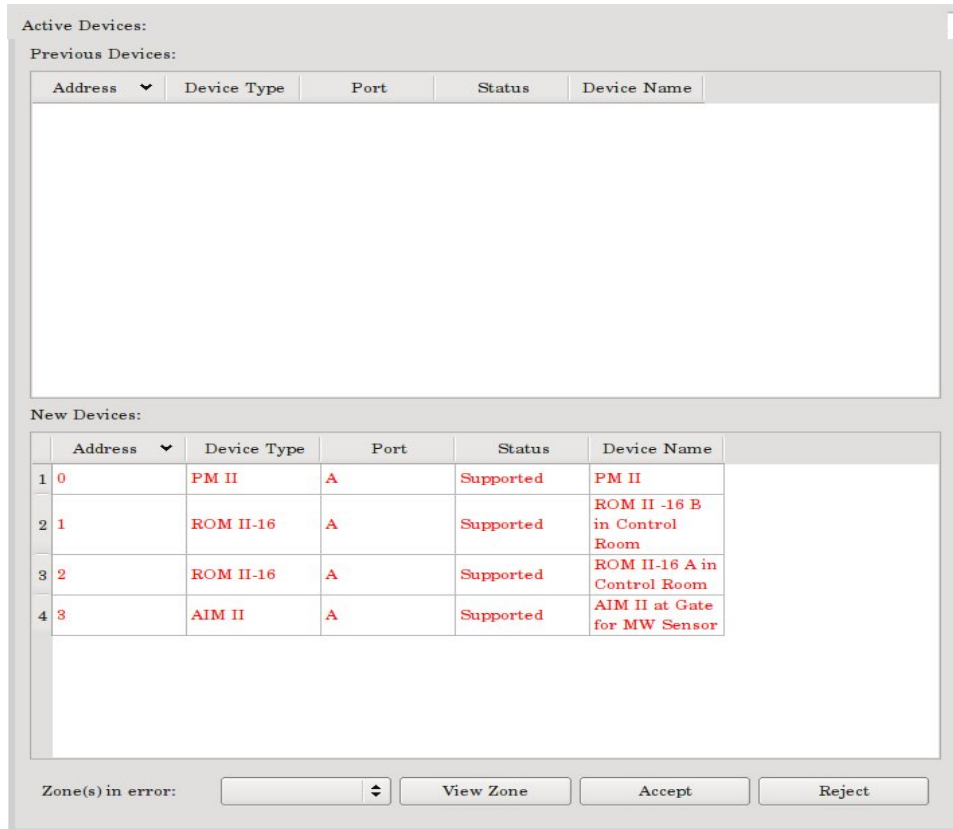
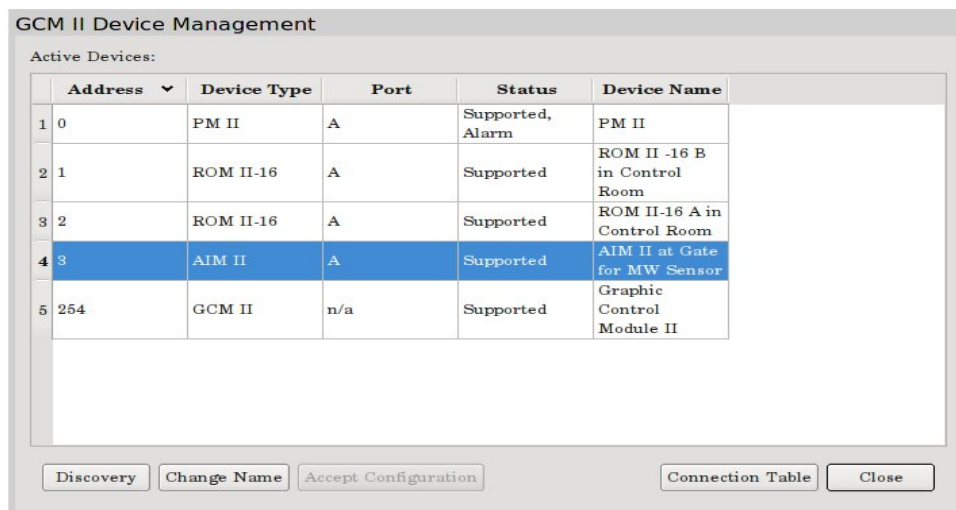
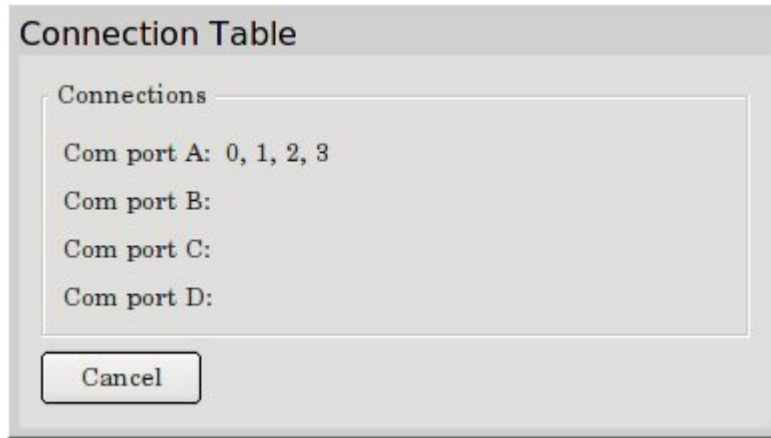

Figure 41 – New Discovered Devices
Figure 42 –Discovered Devices
Figure 45 – Connection Table
Once the “Stop” button has been selected the system will finish polling all connected devices. The “Discovery” screen will open with only the new discovered devices as shown in Figure 41. At this point any previous devices will be listed along with all new devices found. The discovery can be “Accepted” or “Rejected” by selecting one of these buttons. If there had been previous devices found and any defined zone(s) had been changed because of the new discovery, they would be listed as “Zone(s) in Error”. If the discovery is correct for all devices connected, select “Accept”. If not select “Reject”. Once accepted the GCM II Device Management screen will open listing all “Active Devices” as shown in Figure 42. All devices will now be polled by the GCM II.
If the name of the device needs to be changed or entered, select the device then select the “Change Name” button on the GCM II Device Management screen as shown in Figure 42. This will open the “Change Name” screen as shown in Figure 43. Enter the new name and select OK. *The CGM II name is not changeable in this screen. If the name of the CGM II needs to be changed this must be done in the “Properties” tab under “General”.*
The “Accept Configuration” button on the GCM II Device Management screen as show in Figure 42 will only be active when a change has been made to a device. For example, if an input to an AIM II is change from a normally open (NO) to normally closed (NC) state, the device status will be “Compromised” as shown in Figure 44. If this change is a correct change, select the compromised device then select “Accept Configuration” to accept the change.
Selecting the “Connection Table” button on the GCM II Device Management screen as show in Figure 42 will open the “Connection Table” as shown in Figure 45. This table will list which devices by address are connect to which ports of the GCM II. In this example all devices are connected to Com Port A.